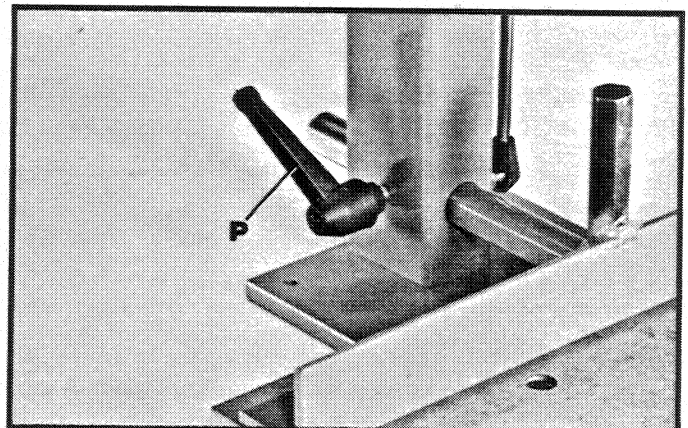

Fig. 10
10. Fig. 10 illustrates the handle (P) assembled. **NOTE:** Handle (P) is spring loaded and can be repositioned on the serrated nut located underneath the handle by pulling out on the handle and repositioning it on the serrated nut.